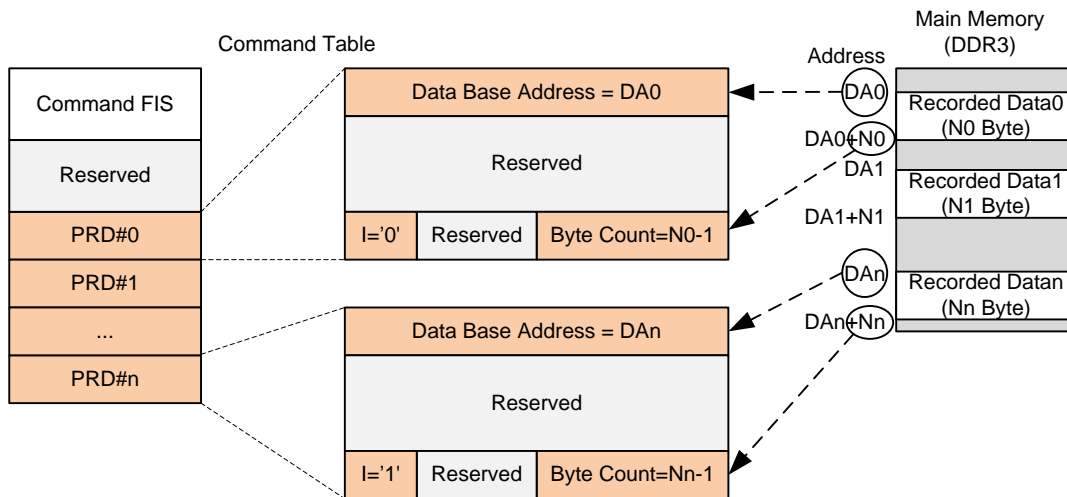

Figure 3-9 Set PRD for Write DMA Ext Command
- 4) Set Data Base Address of each PRD = Start address of each write data segment in the main memory. Also, set Byte count = data size in each write data segment, as shown in Figure 3-9. 'I' bit of the last PRD must be set to '1'.